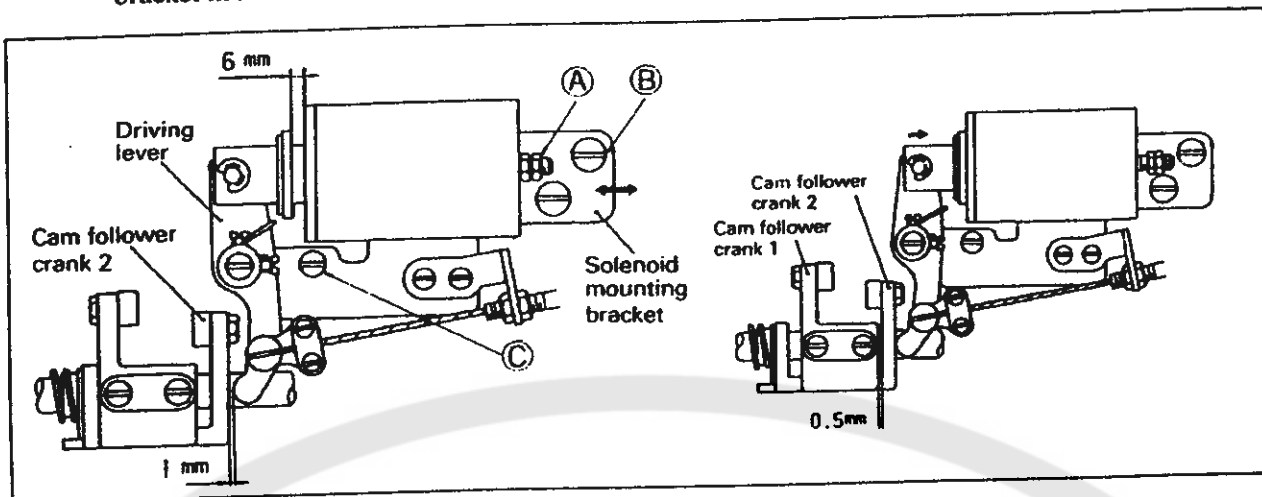

Fig.37
4) Installing the thread trimmer solenoid unit (Fig.37):